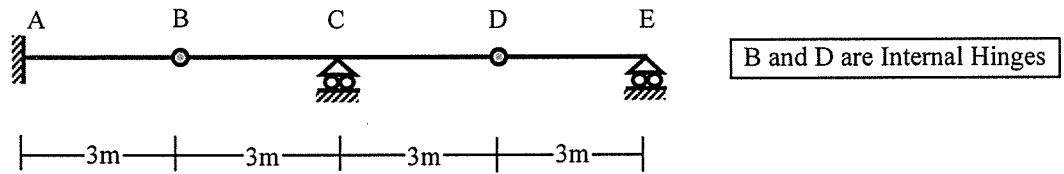

Fig.1
1. Draw the influence lines for (i) R_E (ii) V_{CL} (iii) M_A of the beam shown in *Fig.1* (ABCDE). [5]